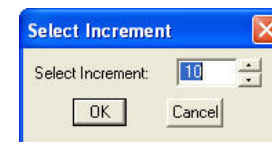

Figure 2.5c
**Automatically Increment Sort Codes:** After you have entered the first sort code, you can select this option to automatically fill down the remaining sort codes and automatically increase the next sort code by a predefined number. After selecting this option, you will see the window shown in Figure 2.5c. For example, the option shown on the screen below will increment each sort code by 10 (example: 10, 20, 30, 40 etc.). You can select this option from either the OPTIONS menu or by Right-Clicking the mouse.